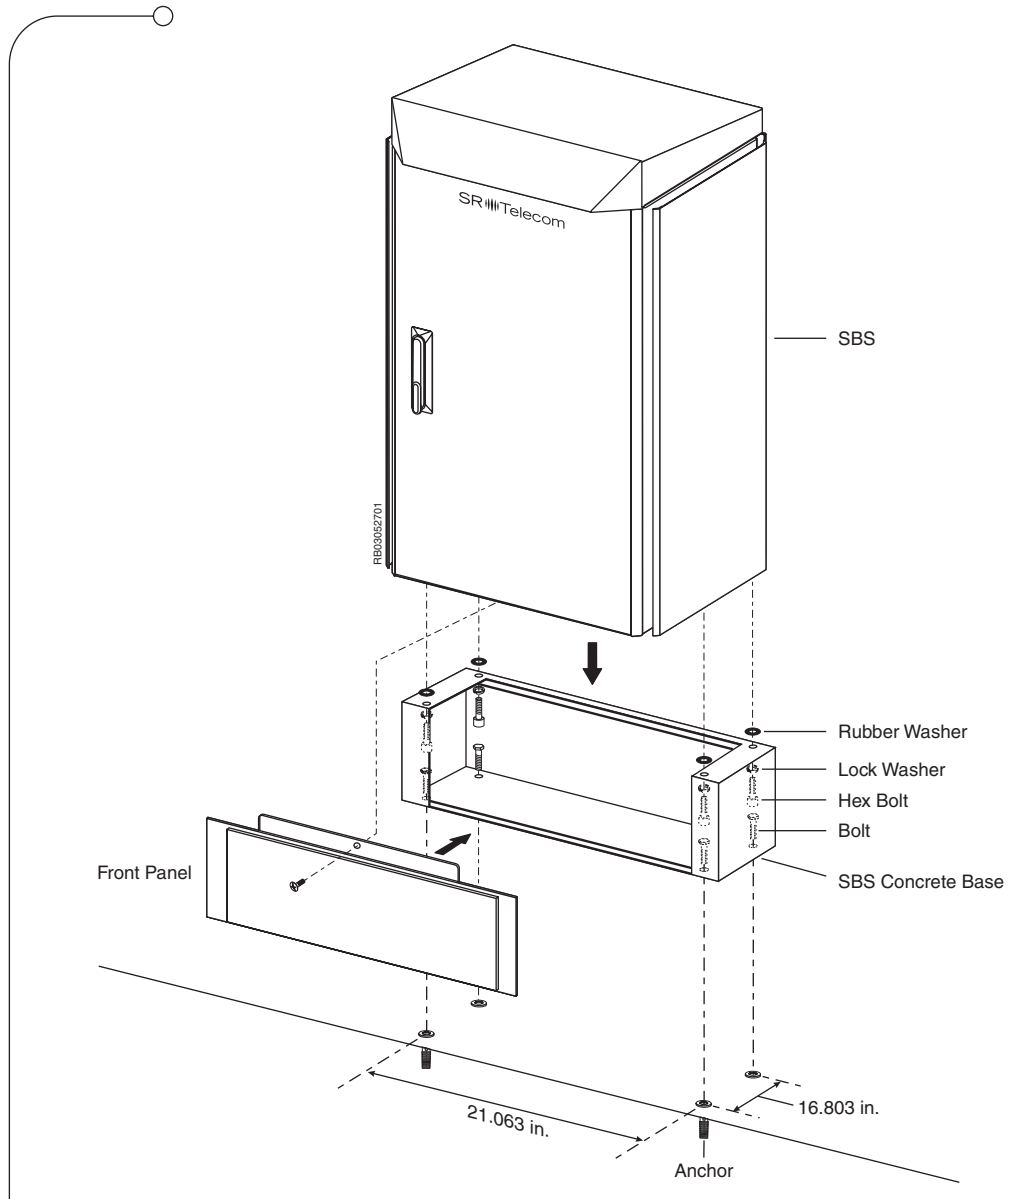

Figure 3.10 Concrete Base-Mounted SBS
1. Remove the four bottom feet of the SBS cabinet and place the SBS Concrete Base over the concrete anchors, secure using a bolt and washer, as shown in Figure 3.10 on page 39.